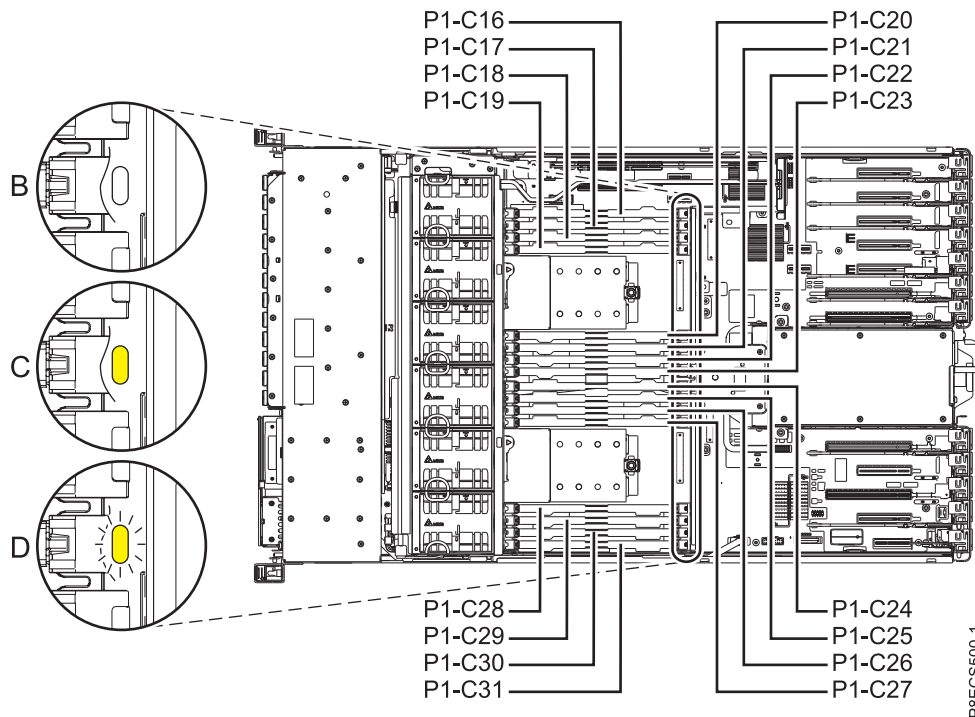

Figure 9. LEDs for a working and failed memory module
- f. Verify that the amber LED for the replaced memory module is **Off**, as shown in (B) in Figure 9 on page 14.